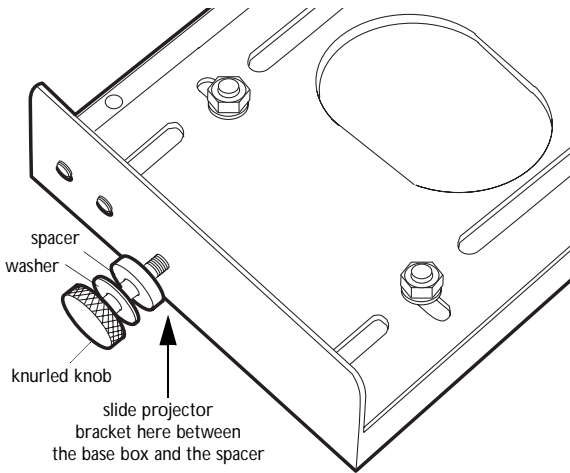

FIGURE 4
- 1 Loosely install the 12 mm knurled knobs, flat washers, and conical spacers to the 2 hinge pins on the base box (Figure 4).
- 3 Insert the projector and mounting bracket slots onto the base box hinge pins between the spacers and base box (Figure 4). Slide the projector bracket forward until the hinge pins rest fully in the vertical slots and support the projector.